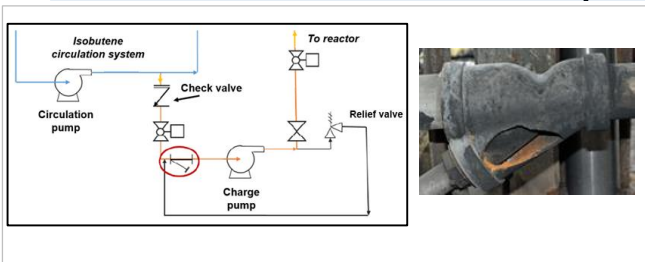

Figure 1. Left, schematic for 2019 incident, (CSB Report No. 2019-02-I-TX). Right, ruptured strainer (CSB), from red circle in schematic.
- Liquids and solids have tightly packed molecules and atoms and even very high pressure cannot compress them much. When heated, they expand; liquids much more than solids. Pipelines in hot service have compensating expansion loops and liquids blocked-in without a gas space or relief device can rupture equipment as is shown in Figure 1.